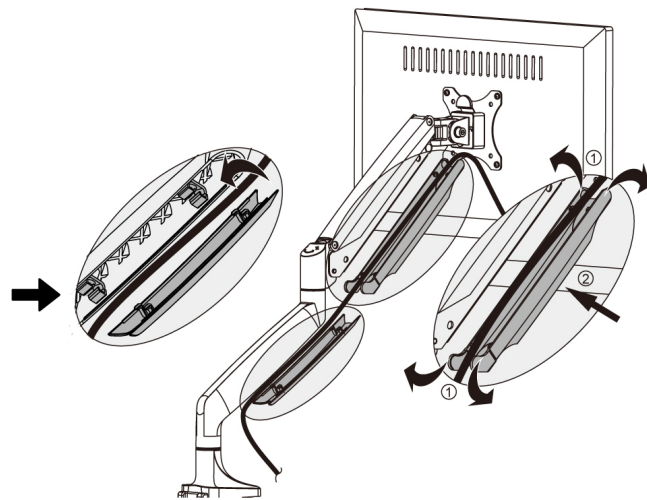

Figure 13
2. Arrange the cables into the covers and place the covers back onto the arms, see Figure 13.